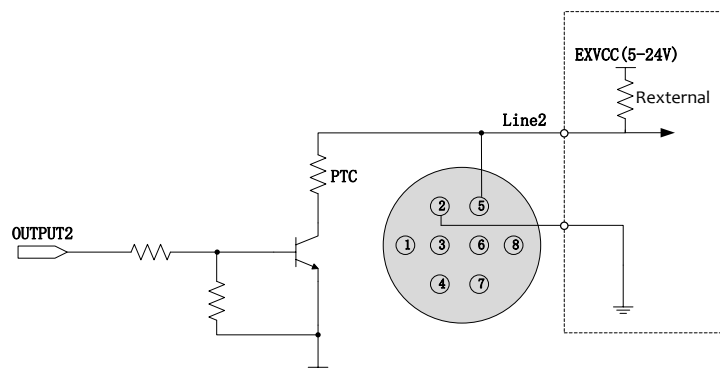

Figure3- 6: Internal equivalent circuit of camera when Line2 is configured as input
- When Line2/3 is configured as input, internal equivalent circuit of camera is shown as Figure3- 6, for Line2 as an example.